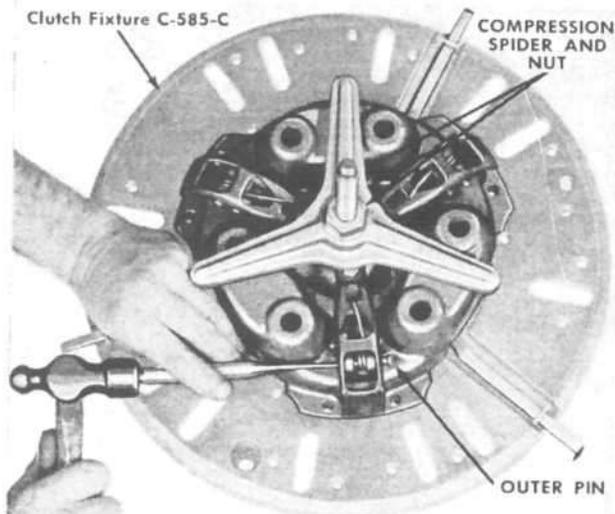

FIG. 178—DISASSEMBLING ROCKFORD CLUTCH
- c. Remove retainer ring from the outer pin on each lever. Drive out the outer pins only. Fig. 178.